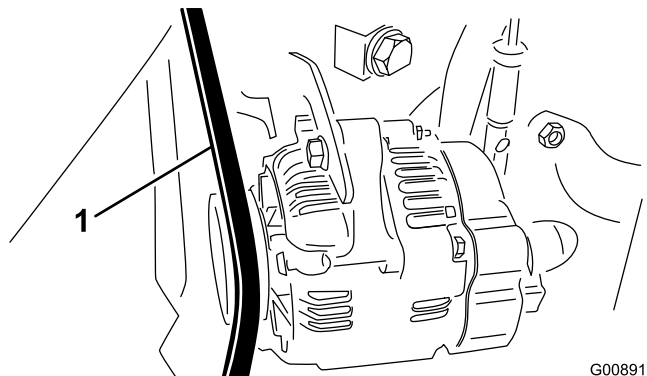

Figure 69
2. Check the tension by depressing the alternator/fan belt midway between the alternator and crankshaft pulleys with 30 N-m (22 lb) of force (Figure 69).